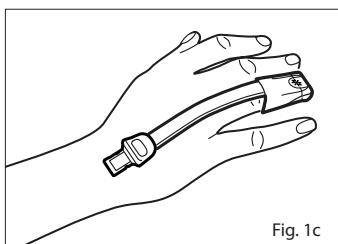

Fig. 1c
4. Refer to Fig. 1c. Fold the sensor over the finger with the emitter window (*) positioned over the fingernail. Secure the wings down, one at a time, around the finger.